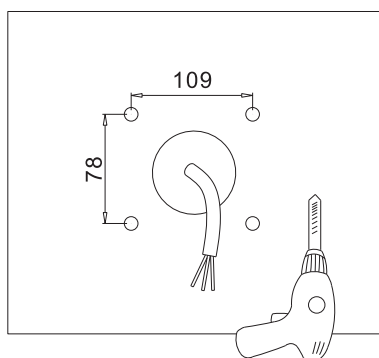

Figure 1-1
- 1.Cut holes on the wall according to locating plate. (Figure 1-1)